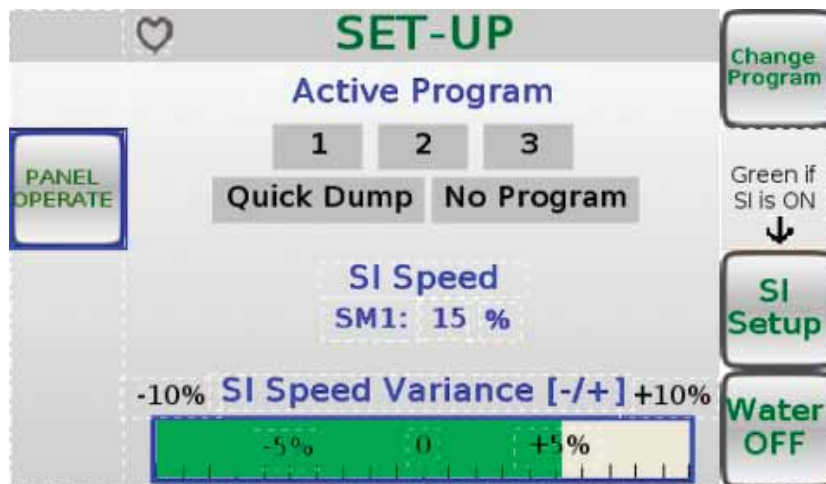
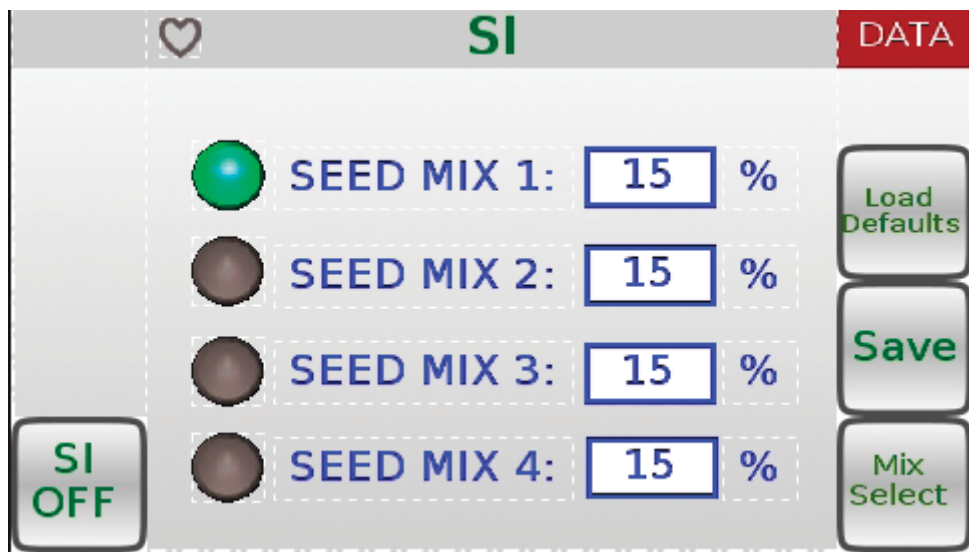

Figure 8
Figure 11
The PANEL OPERATE menu screen can be accessed by pressing the PANEL OPERATE button while in the SET-UP menu screen (see Figure 8). Seed Injection (SI) Speed Variance can be changed in the SET-UP menu screen. Turn the control knob located on the Main Control Panel to either the left or right to decrease or increase the SI Speed Variance. To turn the water control ON or OFF, press the Water ON/OFF toggle button while in the SET-UP menu screen (see Figure 8).
To change your Seed Injection (SI) settings (if equipped), you will need to access the SI menu screen. To access the SI menu screen, you will need to press the SI Setup button, located in the bottom-right of the SET-UP menu screen (see Figure 8). The control knob can be used to change any of the SEED MIX settings (see Figure 11). Turn the knob either left or right to highlight the setting you want to change. Once you have highlighted the setting you want to change, press in on the control knob. After pressing in on the control knob, turn the knob either left or right to either increase or decrease the setting. Once you have changed the setting, press the control knob in to deselect that setting. If you want to save the settings after you have changed them, press the Save button on the right side of the screen.